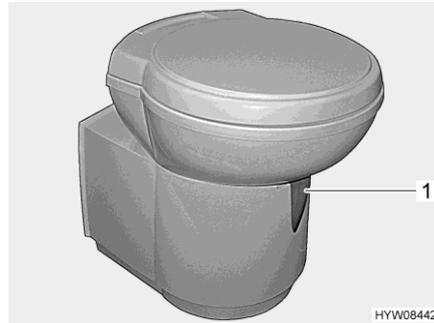

Fig. 108 Thetford toilet bowl (swivelling)
- Before flushing open the sliding trap of the Thetford toilet. To do this, push the slide lever (Fig. 108,1) in an anticlockwise direction.